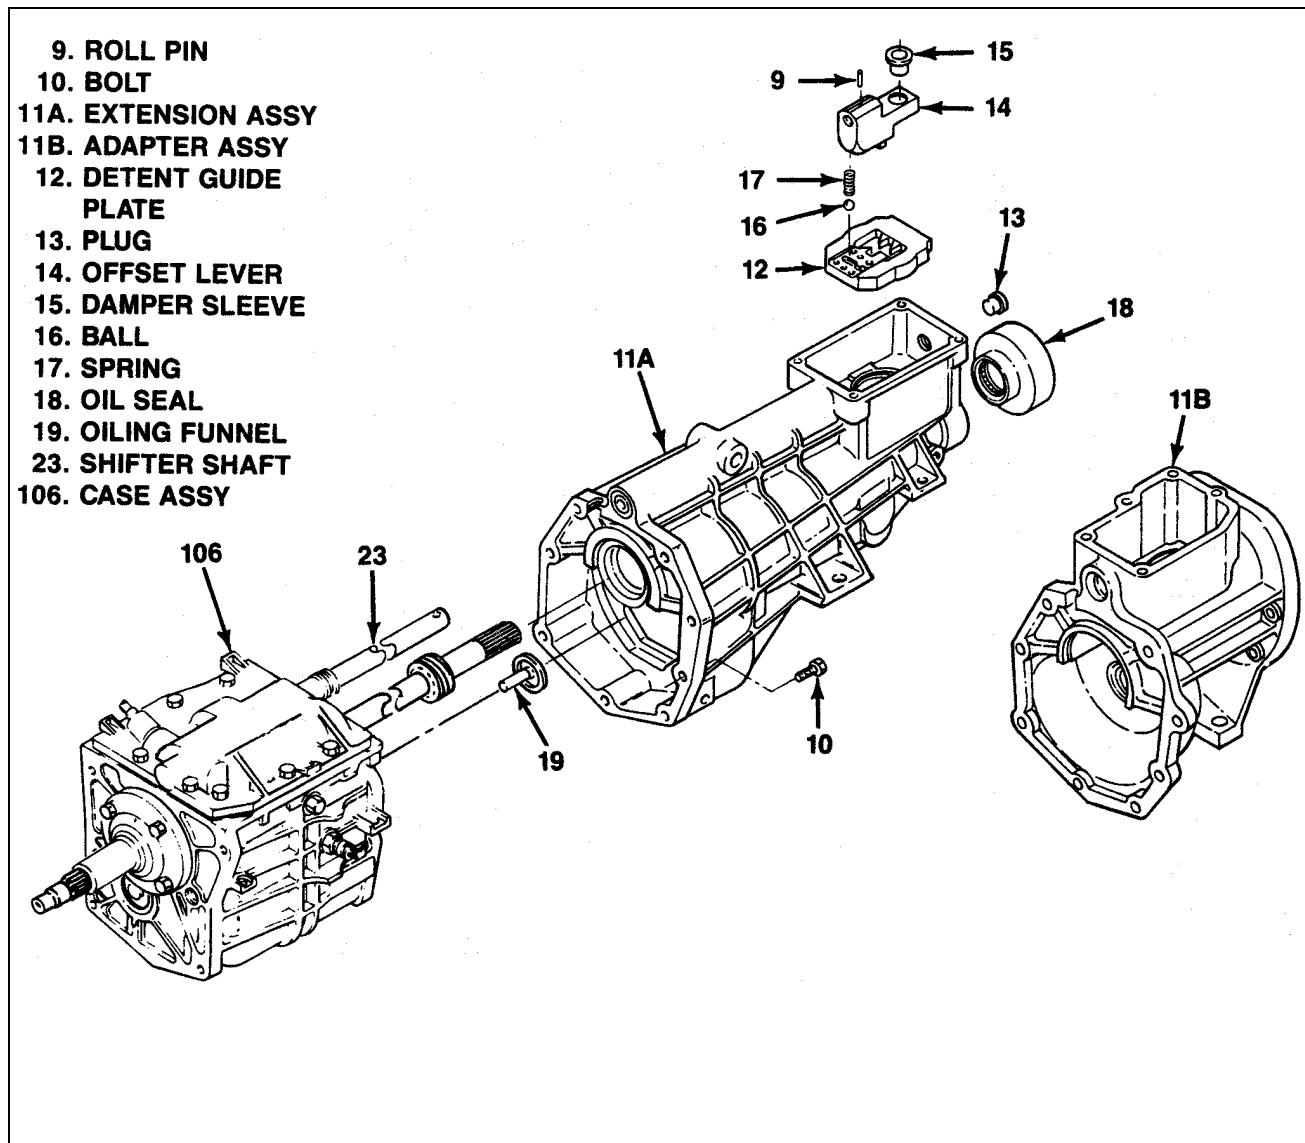

Figure 4-2. T5 STD Extension or Adapter
**Failure to shift transmission into neutral at 3-4 position before removing control lever and housing assembly may result in driving roll pin (9, figure 4-2) into detent guide plate (18) when pin is removed (paragraph 4-8).**
- c. Remove screws (2).
- d. If necessary, use suitable knife to break sealant bond between control lever and housing assembly (3A or 3B) and extension (11A) or adapter (11B). Remove control lever and housing assembly. Remove boot (4) only if replacement is required.
- f. If used, remove neutral switch (6), pin(7) and wire retainer (8).
**4-8. REMOVAL OF T5 STD EXTENSION OR ADAPTER.** With offset lever accessible and in neutral at 3-4 position (paragraph 4-7, step b), proceed as follows (see figure 4-2):
- a. Using suitable drift, drive roll pin (9) into offset lever (14) and out of engagement with shifter shaft (23). Tap drift with hammer just until offset lever feels free on shaft.
- b. Remove bolts (10).
- c. If necessary, use suitable knife to break sealant bond between extension or adapter (11A or 11B) and transmission case (106). Pull extension or adapter